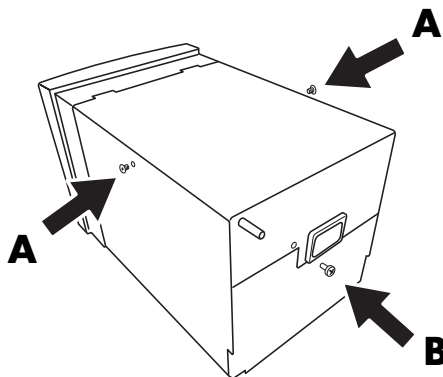

Figure 11.2a Undo cover fixings
2. Release the cover by undoing the two T8 Torx-headed screws ('A' in figure 11.2a) and the Cross-headed screw ('B' in the figure).